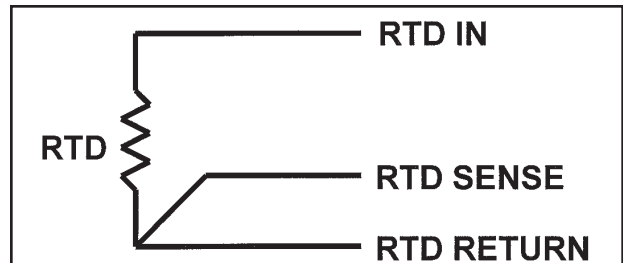

FIGURE 8-4. Three-Wire RTD Configuration.
4. If a standard millivolt source is available, disconnect the jumper wire between pH IN and REFERENCE IN and connect the voltage source as shown in Figure 8-4. Be sure to jumper the reference and solution ground terminals.
The FCLi analyzer accepts a Pt100 RTD (for pH and chlorine sensors). The Pt100 RTD is in a three-wire configuration. See Figure 8-4.